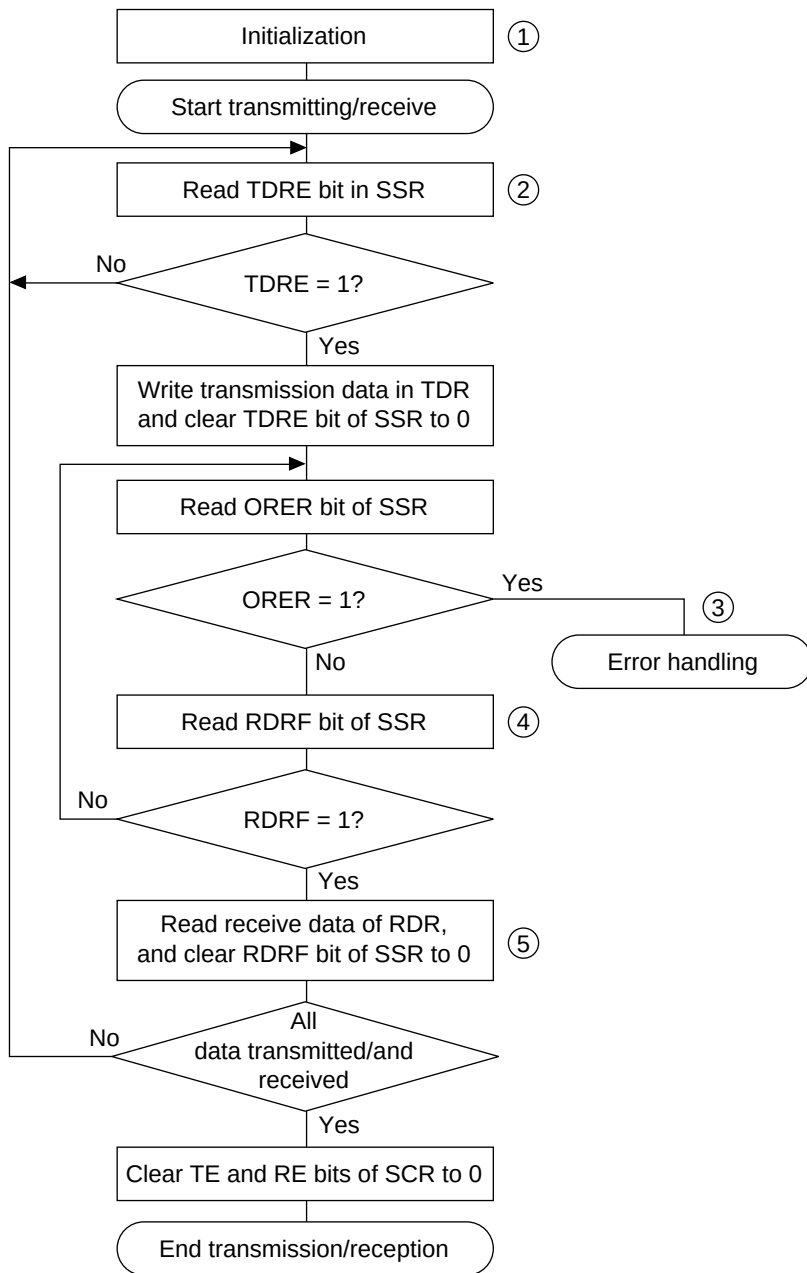

**Figure 14.23 Sample Flowchart for Serial Transmission**
**Transmitting and Receiving Serial Data Simultaneously (Clock Synchronous Mode):** Figure 14.23 shows a sample flowchart for transmitting and receiving serial data simultaneously. The procedure is as follows (the steps correspond to the numbers in the flowchart):